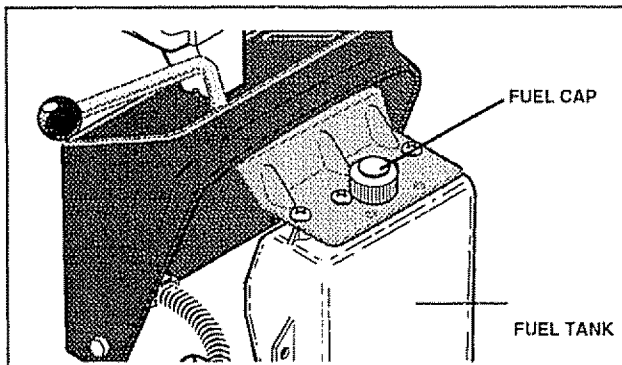

FIG. 11A
- Fill tank (see Fig. 11A). Use fresh, clean, regular Unleaded gasoline. (Use of leaded gasoline will increase carbon and lead oxide deposits and reduce valve life).